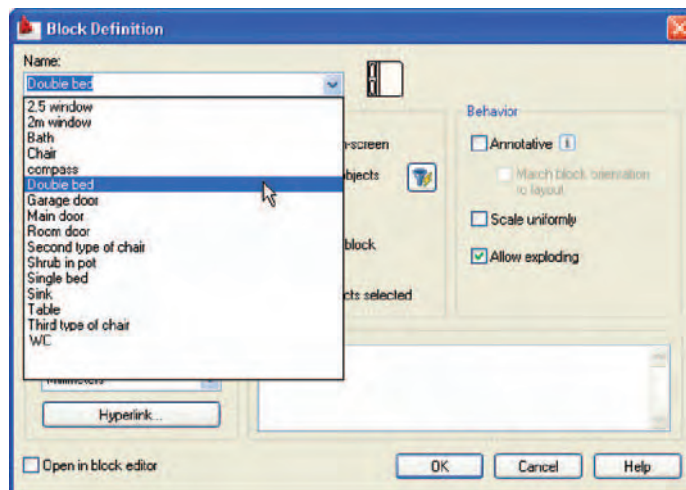

Fig. 9.4 The popup list in the **Name** field of the **Block Definition** dialog showing all blocks saved in the drawing
4. Open the **Block Definition** dialog again and *click* the arrow on the right of the **Name** field. Blocks saved in the drawing are listed in Fig. 9.4.